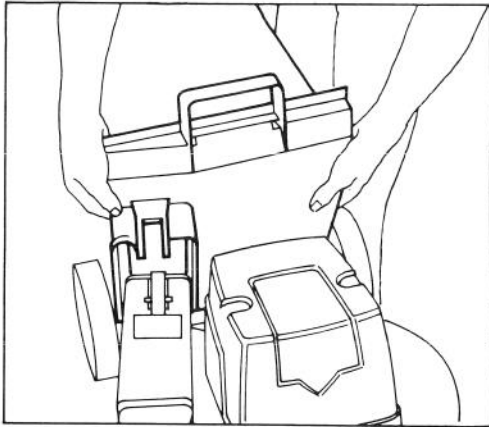

Figure 10
3. **INSTALLING BAG** (Fig. 10) — Hold front of bag frame and bag door together. Then place opening in bag door against flanges on rear chute and slide bag door down.